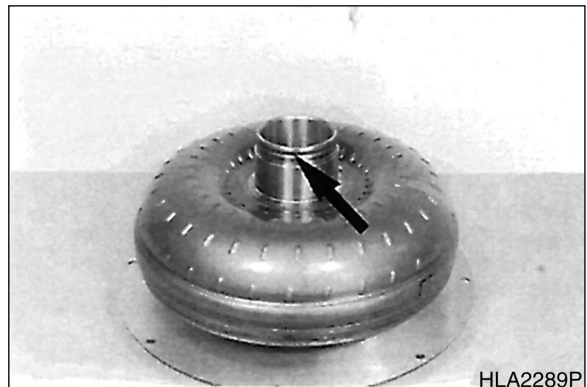

Figure 396
2. Squeeze in and engage rectangular ring (Figure 396). Now, grease rectangular and align it centrally.